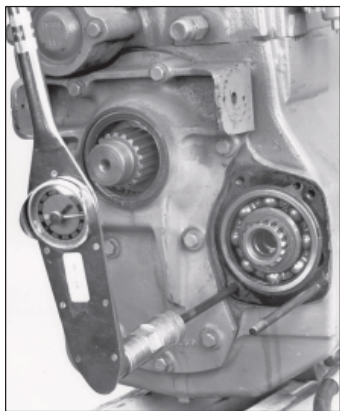

Fig. 8
Install the two studs (A) in the lower bolt holes as shown in Fig. 8. Then torque the studs to 37-41 ft. lbs.